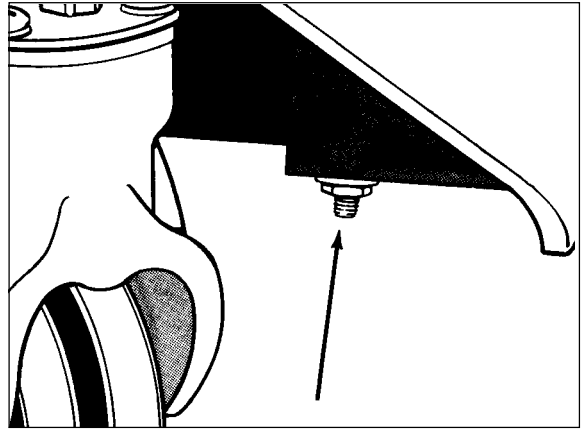

Figure 13
1. Locate the leveling screw. See figure 13. The leveling screw is located towards the rear of the chassis beneath the sanding pressure knob.